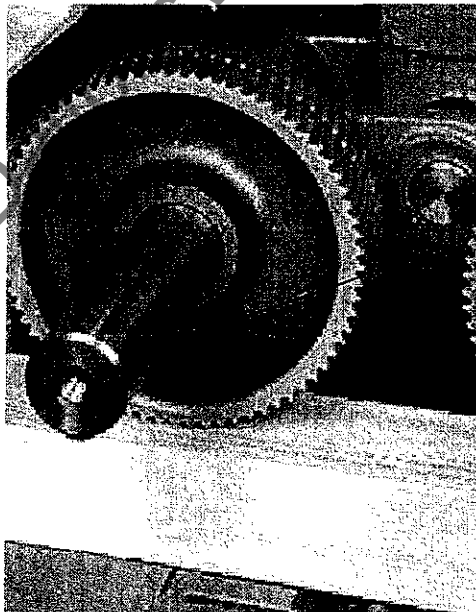

Figure 5.9.1
5.9 Setting the Feed Rolls (Figures 5.9.1, 5.9.2 and 5.9.3)
Positioning Shaft-Mounted Feed Rolls (Figure 5.9.1)